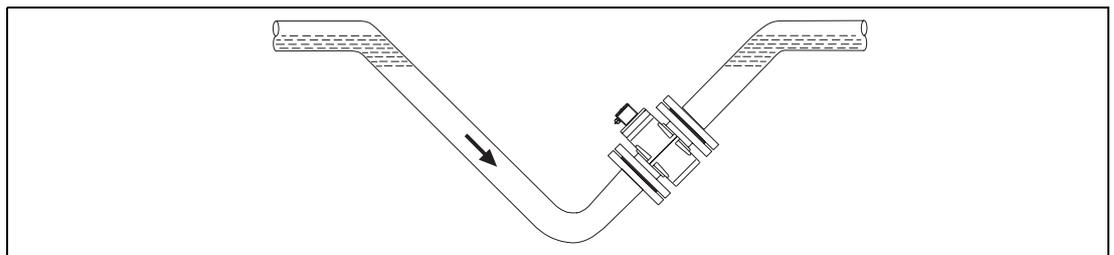

Fig. 8:
- For free flow in- and outlet, provide invert as required, to assure that the pipeline is always full (Fig. 8)